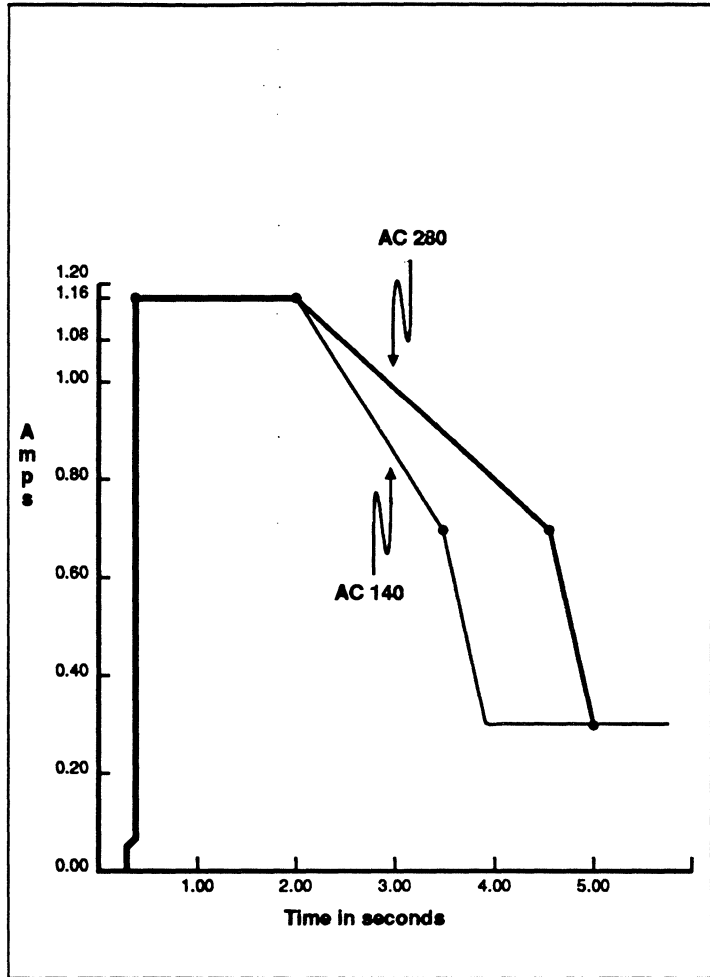

Figure 2-2. +12V Current Draw During Spin Up (Master Mode)
*\*Note: Spin-up mode begins at zero RPM spindle speed and ends with normal spindle speed. A complete spin-up operation typically requires five seconds. Maximum spin-up power is dissipated during the first two seconds of spin up. Refer to Figure 2-2*